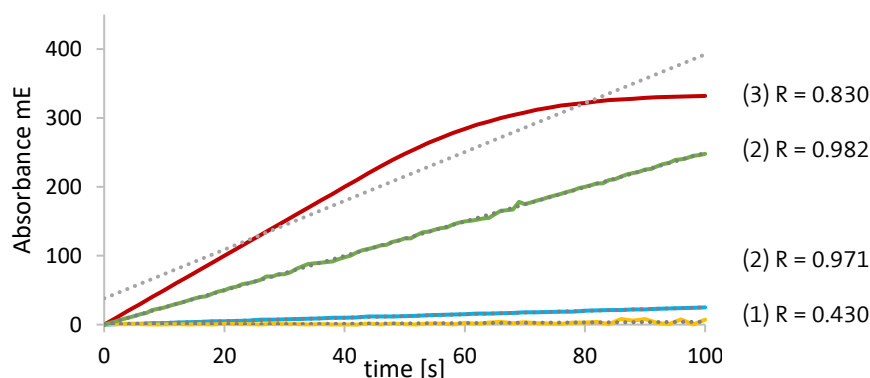

Figure 1: relationship of light absorbance and concentration D-dimer. The slope of the kinetic is the raw data [mE/min]
- Check sample kinetics (examples in Figure 1):